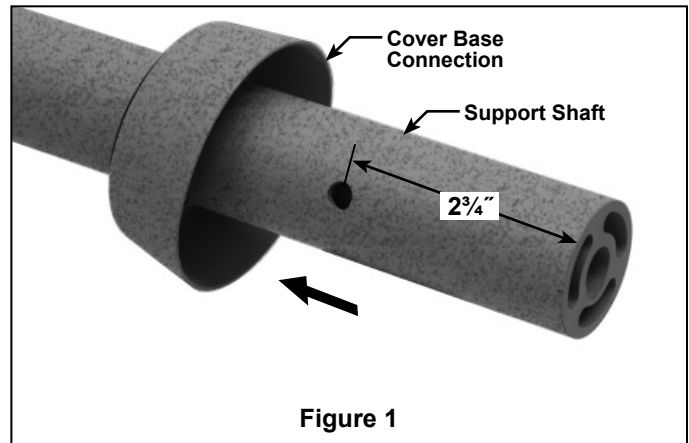

Figure 1
2. Assemble the Cover Base Connection onto lower part of the Support Shaft. (Figure 1)